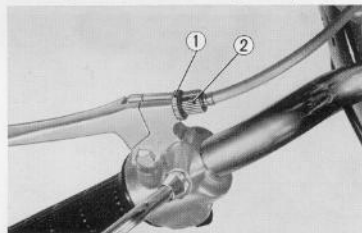

Fig. 4.8 Removing brake and clutch cables
① Stem nut socket wrench ② Stem nut
③ Front fork bolt ④ Fork top bridge
7. In order to remove the clutch and brake cables from the handle lever, loosen the cable adjusting bolts ②, align the lock nut ① to the groove and separate from the handle lever. Remove the cable end from the lever. (Fig. 4.8)